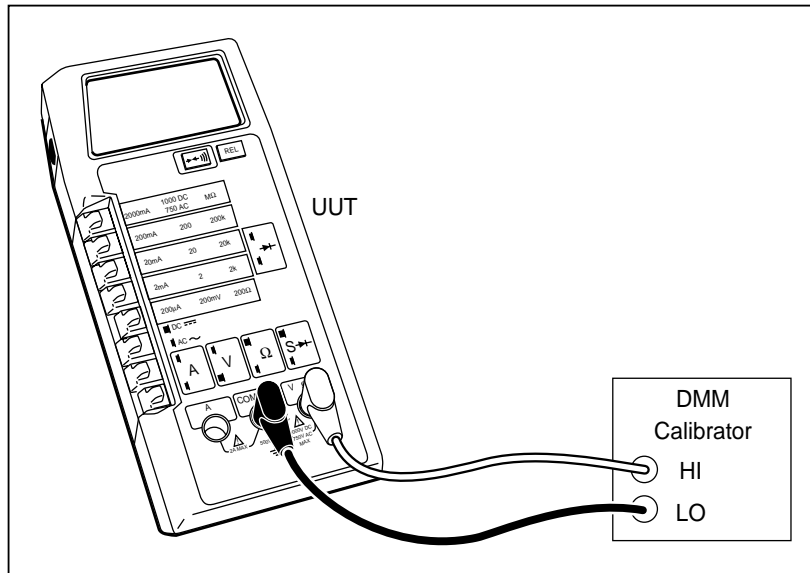

Figure 4-4. General Equipment Connection
1. Connect the UUT and the DMM Calibrator as shown in Figure 4-4.
2. Connect the UUT and the DMM Calibrator as shown in Figure 4-4 and apply a resistance of 1.000 k Ω . A reading of .9000 to 1.1000 (typical) should appear on the UUT display.
3. Connect the equipment as shown in Figure 4-4 and turn on the equipment.
4. On the UUT, select the dc voltage function and the 2 volt range. Turn R6 fully clockwise (CW), and turn R5 fully counterclockwise (CCW).